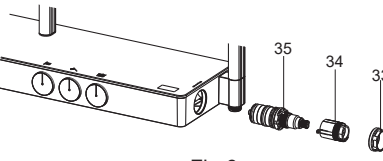

Fig.6
将螺母(33)和塑料套(34)卸下。小心地卸下温控阀(35)。用热醋进行清洗(Fig.6)。
Unscrew the nut(33) and stopper(34). Remove the cartridge(35) cautiously. Clean the cartridge by soaking it in warm vinegar(Fig.6).